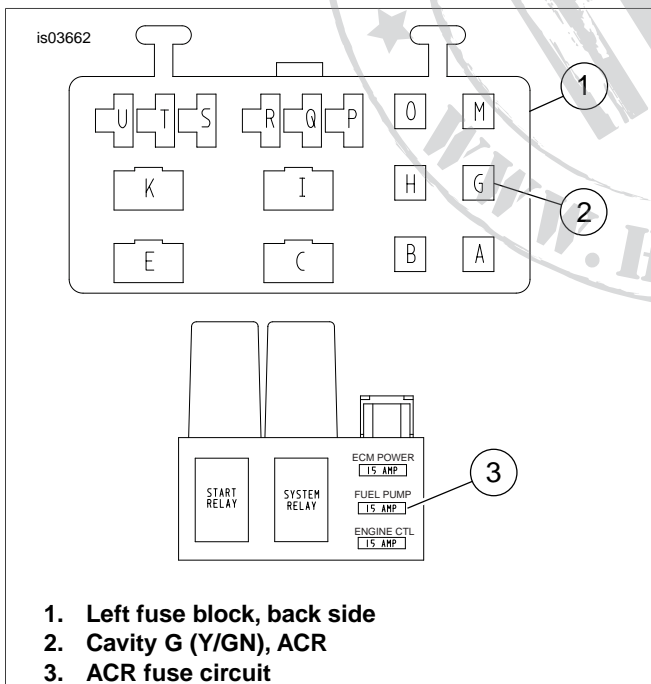

Figure 24. Left Fuse Block (Modified)
- Install Y/GN terminal wires from ACR overlay wire harness into cavity G (Figure 24, Item 2) in left fuse block and cavity K (Figure 24, Item 3) in right fuse block.
- Install fuel pump fuse (Figure 24, Item 4) into right fuse block and ACR fuse (Figure 23, Item 3) into left fuse block.